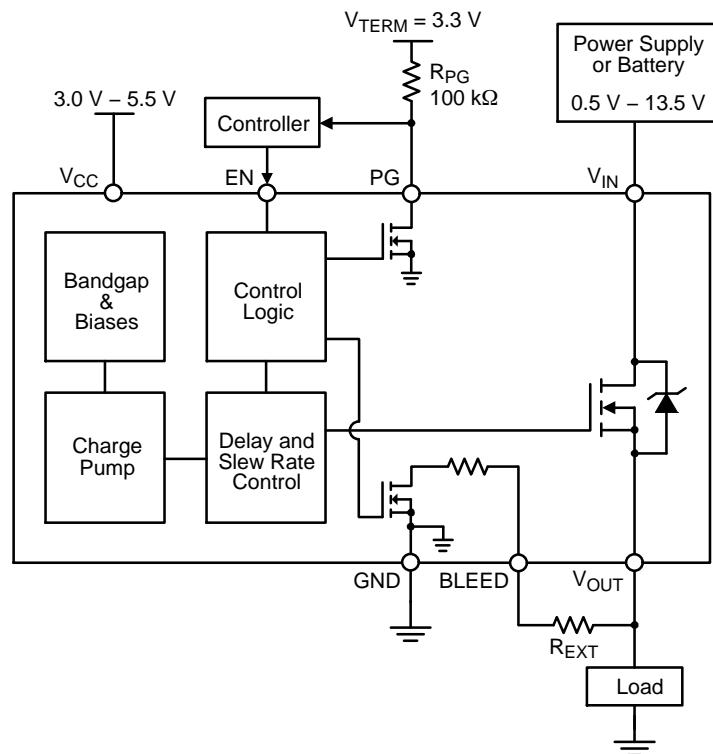
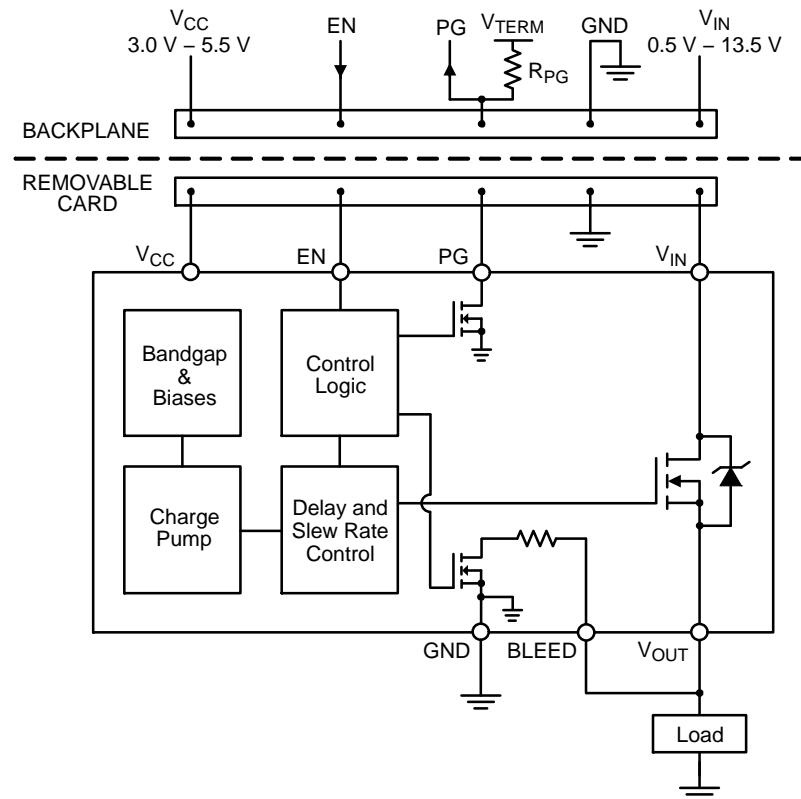

Figure 27. NCP45524 Typical Application Diagram – Load Switch
Figure 28. NCP45524 Typical Application Diagram – Hot Swap
It is required that the BLEED pin be connected to V_{OUT} either directly (as shown in Figures 28 and 31) or through an external resistor, R_{EXT} (as shown in Figures 27 and 30). R_{EXT} should not exceed 100 MΩ and can be used to increase the total bleed resistance and decrease the load bleed rate.
The NCP45524 devices have a power good output (PG) that can be used to indicate when the gate of the MOSFET is fully charged. The PG pin is an active-high, open-drain output that requires an external pull up resistor, R_{PG}, greater than or equal to 1 kΩ to an external voltage source, V_{TERM}, that is compatible with input levels of all devices connected to this pin (as shown in Figures 27 and 28).